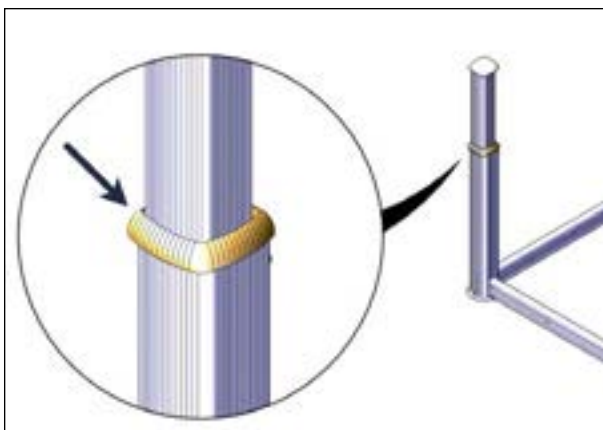

FIGURE 61: SLEEVE SEAL INSTALLATION
21. Make sure the sleeve seal on each post is slid all the way down against the top of the outer sleeve see Figure 61.